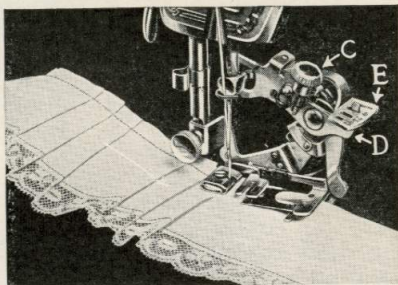

FIG. 65. GROUP PLAITING
The ruffler can be adjusted for group plaiting by lifting the adjusting lever (E, Fig. 65) and moving it to the right so that the top of the projection (D, Fig. 65) rests on the small slot indicated by the star on the adjusting lever. This should be done at the points where you wish to make the space between the plaits. The ruffler will then stop and plain stitching will be made. When the desired space has been made, adjust the lever (E) so that the projection (D) enters either the slot marked "6" or the slot marked "12."
By alternately making groups of plaits and plain spaces, as shown in Fig. 65, very attractive work can be produced.